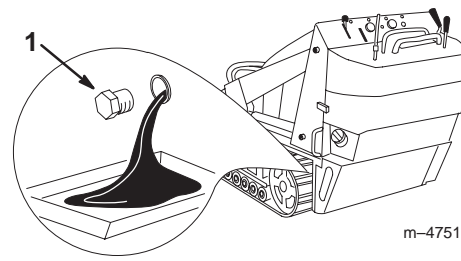

Figure 32
4. Remove the drain plug (Fig. 32).